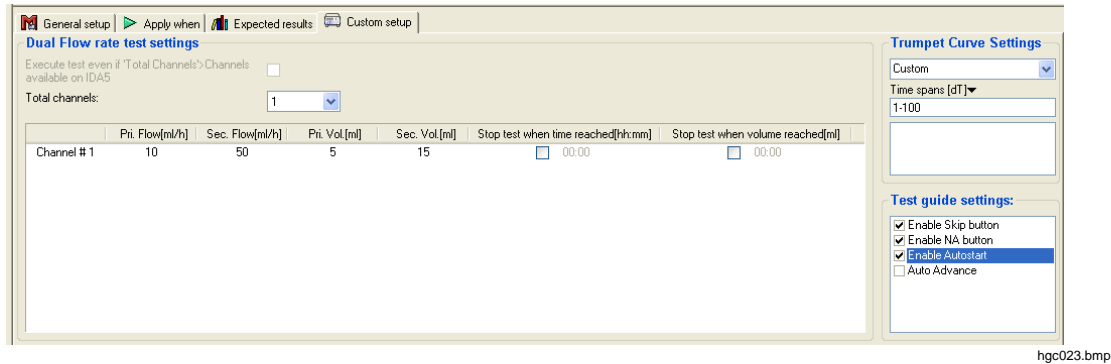

Figure 3-26. Dual Flow Test Configuration
The subhead **Pri. flow** is below the **Dual Flow rate test settings**. See Figure 3-26.
Test element, Custom setup shows in the display. The subhead **Sec. flow** is below **Dual Flow rate test settings** as shown in Figure 3-26.
The subheading **Pri. Vol.** is below **Dual Flow rate test settings** as shown in Figure 3-26.
The subheading **Sec. Vol.** is below **Dual Flow rate test settings** as shown in Figure 3-26.
The subheading **Total Channels** is below **Dual Flow rate test settings** as shown in Figure 3-26.
4. Click the checkbox in the “**Stop test when time reached**” column as shown in Figure 3-26 and set the time to stop.
4. Click the checkbox in the “**Stop test when volume reached**” column as shown in Figure 3-26 and set the volume.